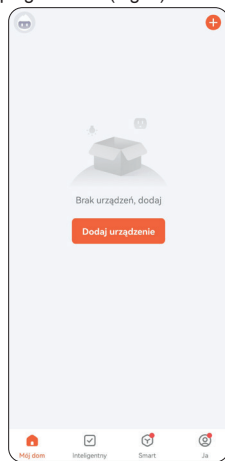

Fig. 4
- Once logged into the application, click „Add device” or „+” button in the top right corner (Fig. 4).